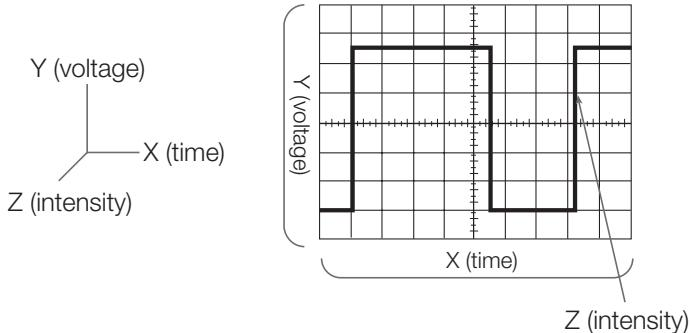

Figure 2. X, Y, and Z components of a displayed waveform.
The oscilloscope is basically a graph-displaying device – it draws a graph of an electrical signal. In most applications, the graph shows how signals change over time: the vertical (Y) axis represents voltage and the horizontal (X) axis represents time. The intensity or brightness of the display is sometimes called the Z axis, as shown in Figure 2. In DPO oscilloscopes, the Z axis can be represented by color grading of the display, as seen in Figure 3.